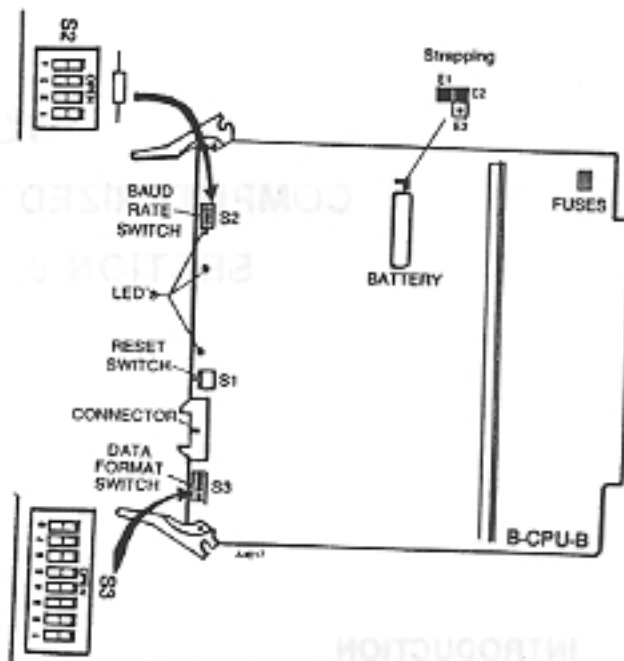

Figure 6-2 CENTRAL PROCESSING UNIT (B-CPU-B) PCB
- The battery on the Central Processing Unit (CPU) Printed Circuit Board (PCB) must be strapped from E1 to E2 (Figure 6-2) to retain the system program during a power failure.
- The baud rate switch (S2) on the CPU PCB (Figure 6-2) must match the baud rate on the terminal (Table 6-1).
- Set the data format switch (S3) on the CPU PCB (Figure 6-2) to be compatible with the programming terminal (Table 6-2)
- Press the reset switch (S1) on the CPU PCB (Figure 6-2), the following message appears: "WELCOME TO CX-128." The system is now ready for programming.